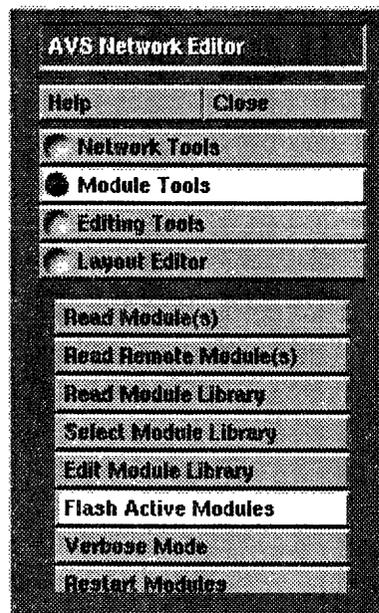

Figure 5. Module Tools menu
1. Start AVS and bring up the AVS Network Editor. From the menu in the upper left of the Network Editor menu, select **Module Tools**, as shown in Figure 5.